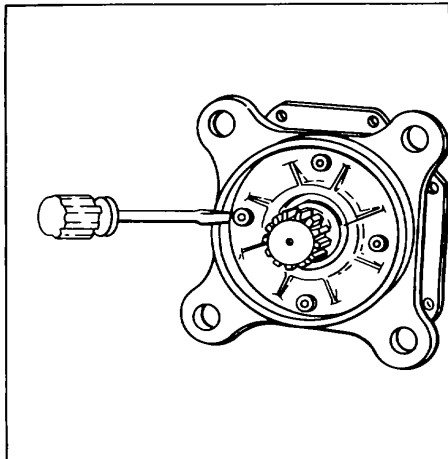

Figure 127.
If shaft seal retainer (57) does not contain the two 1/4" threaded holes, tap the sides of the bolt hole counterbores lightly to break the gasket seal. Using a screw driver, remove seal assembly (57) See Fig. 127.